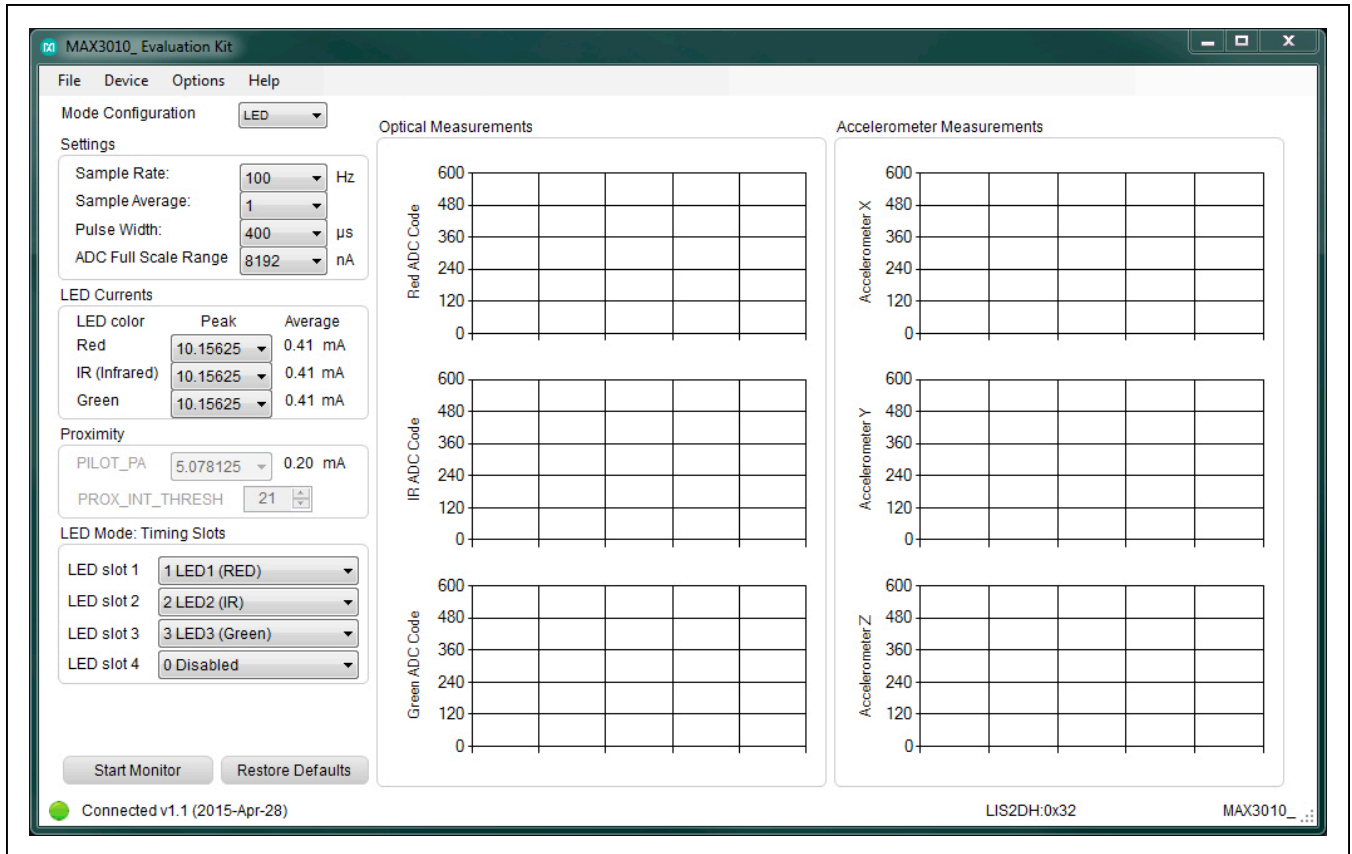

Figure 1. MAX30101 EV Kit Main Window
- 5) Open the *MAX30101EVKit.exe* and verify that the EV kit is connected by observing the status bar at the lower left corner of the GUI. See Figure 1.